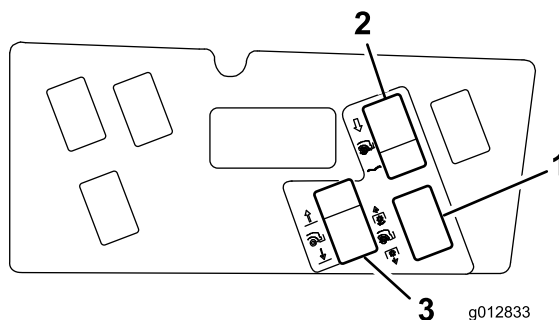

Figure 29
10. Clean the control panel surface and affix the decal around the exposed holes (Figure 29).
11. Insert the switches into the appropriate mounting holes (Figure 29).